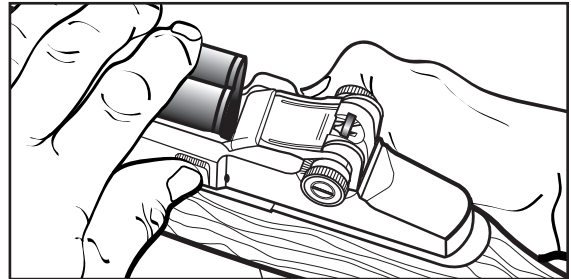

Fig. 23-2
5. Place the fingers or palm of your left hand over the clip and depress the clip latch with your left thumb. **(See Figure 23-2).** At this time the clip and cartridges will pop into your left hand.